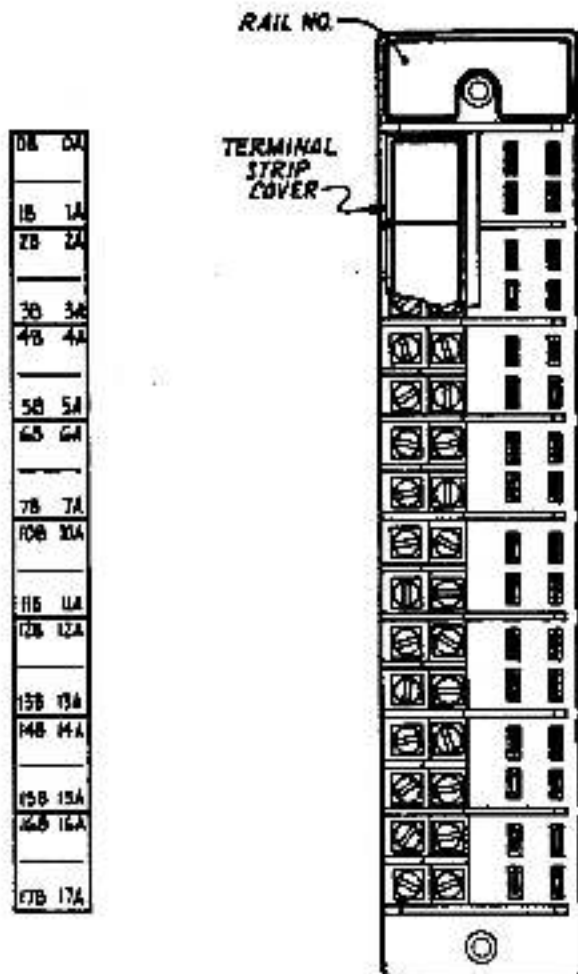
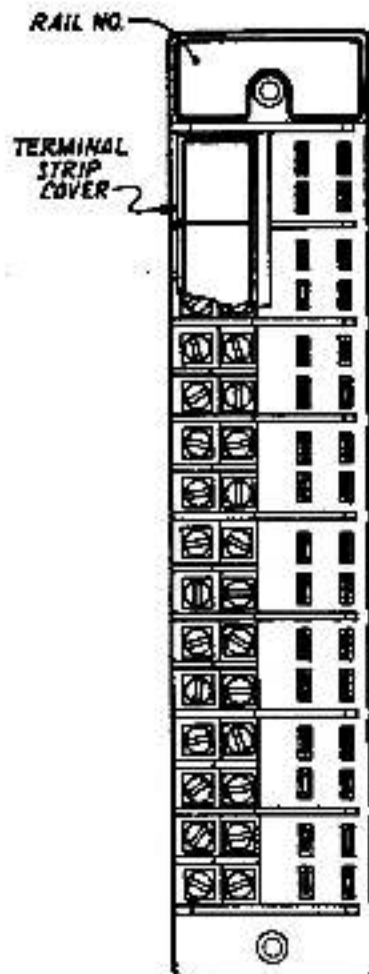
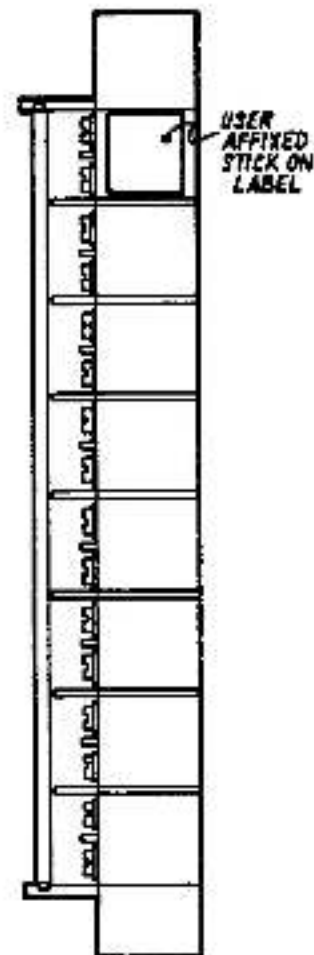

Figure 10A
Figure 10B
Figure 10C
All identification labeling is provided on the terminal strip. The cover plate over the terminals (shown in fig. 10A) is pre-labeled with the I/O address for each of sixteen (16) I/O points per Rail. Also a labeling area is provided to identify the wire number for each connected device. On the top front of each I/O terminal strip a label is provided for the user to identify the Rail number. The user writes in the Rail number 0, 1, 2, or 3 (as shown in Fig. 10B). A stick on label that identifies the type of I/O module is provided with each module. An area is provided for the user to affix the label on the right side of the terminal strip (shown on fig. 10C) next to each of the eight module positions. If an I/O module is removed, the label will be visible, and will identify the type module that needs to be replaced.